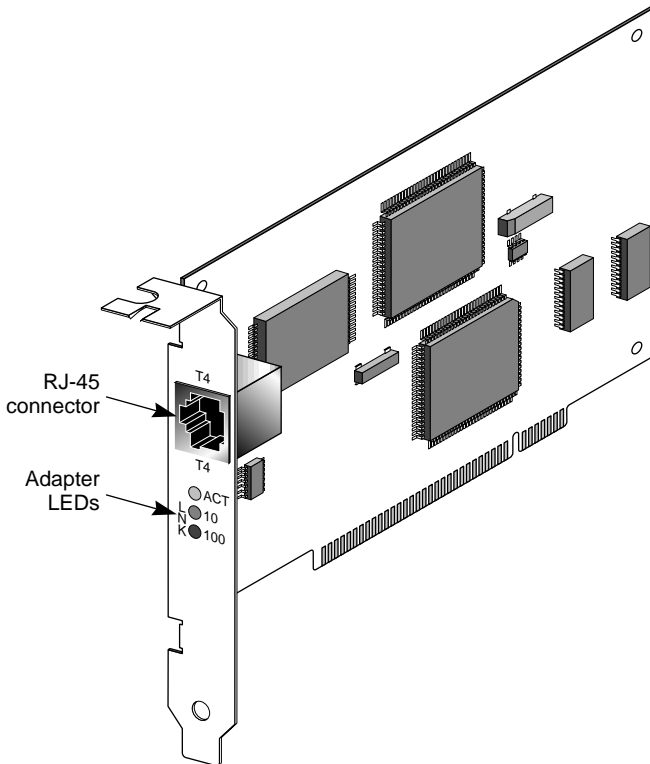

Figure 1-1 10/100BASE-T4 PCI Adapter
The 10/100BASE-T4 PCI adapter (shown in Figure 1-1) can be installed in any PCI slot, either master or non-bus master. However, the adapter will produce higher levels of performance in a bus master slot.
- Three status LEDs, shown in Figure 1-1
The backplate of the Fast EtherLink PCI adapter contains one RJ-45 connector, as shown in Figure 1-1. The adapter automatically senses and switches speed based on the type of hub to which it is connected.